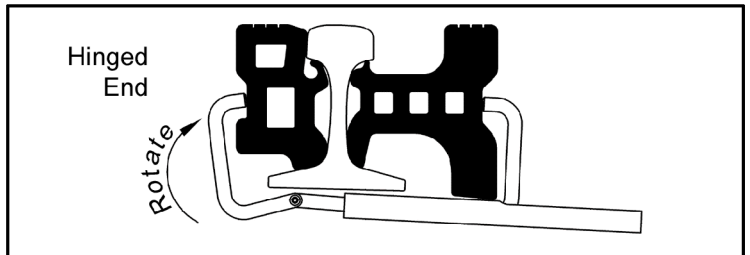

Figure 4
- 4 While applying pressure on the clamp from the gauge side, lift & rotate the hinged end on the field side into the recess on the field interface (Fig. 4)